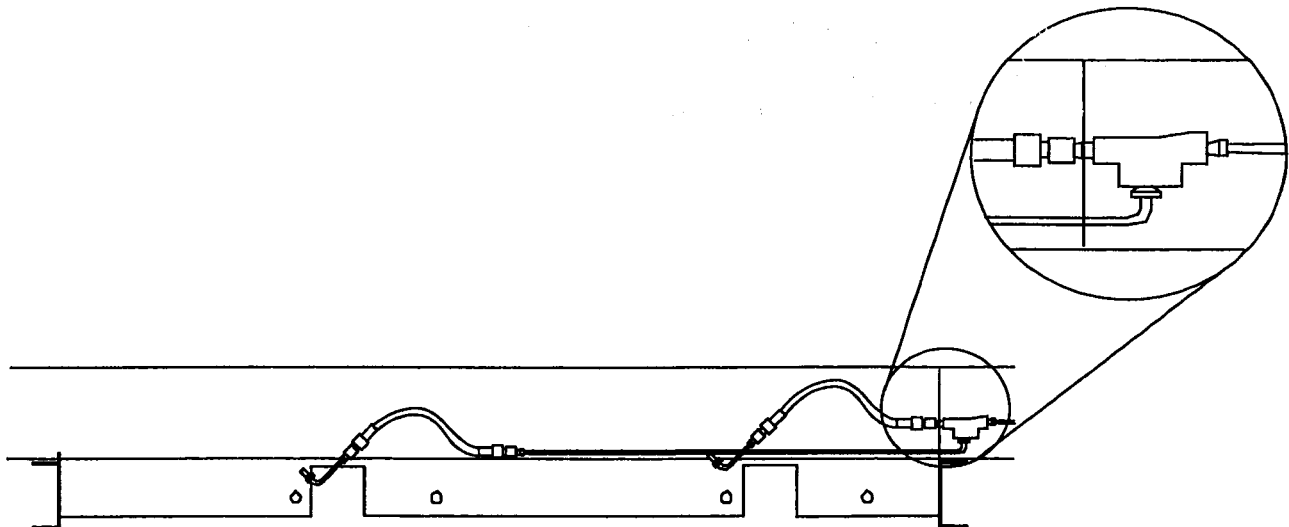

Fig. 2
9. Inspect the routing of the brake lines on the frame outrigger. The metal line needs to be routed through the bottom hole in the outrigger for proper rubber line positioning. If the metal line is not in the lower hole remove all the fittings to correct the routing. (Fig. 2)